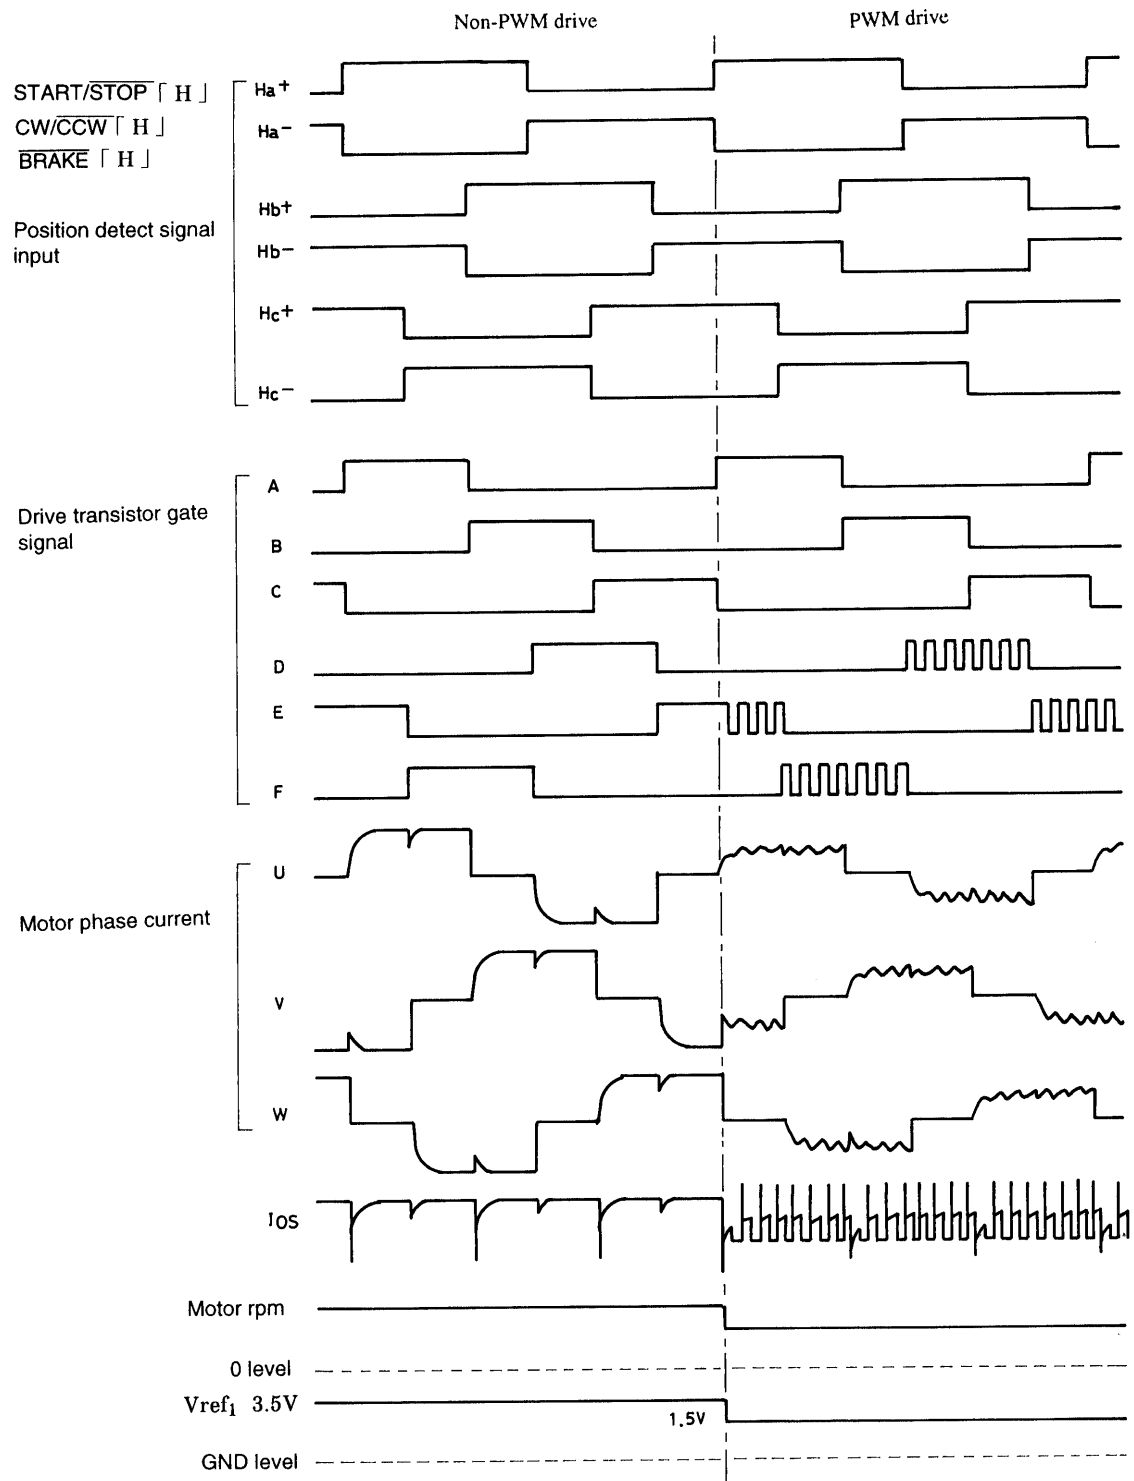
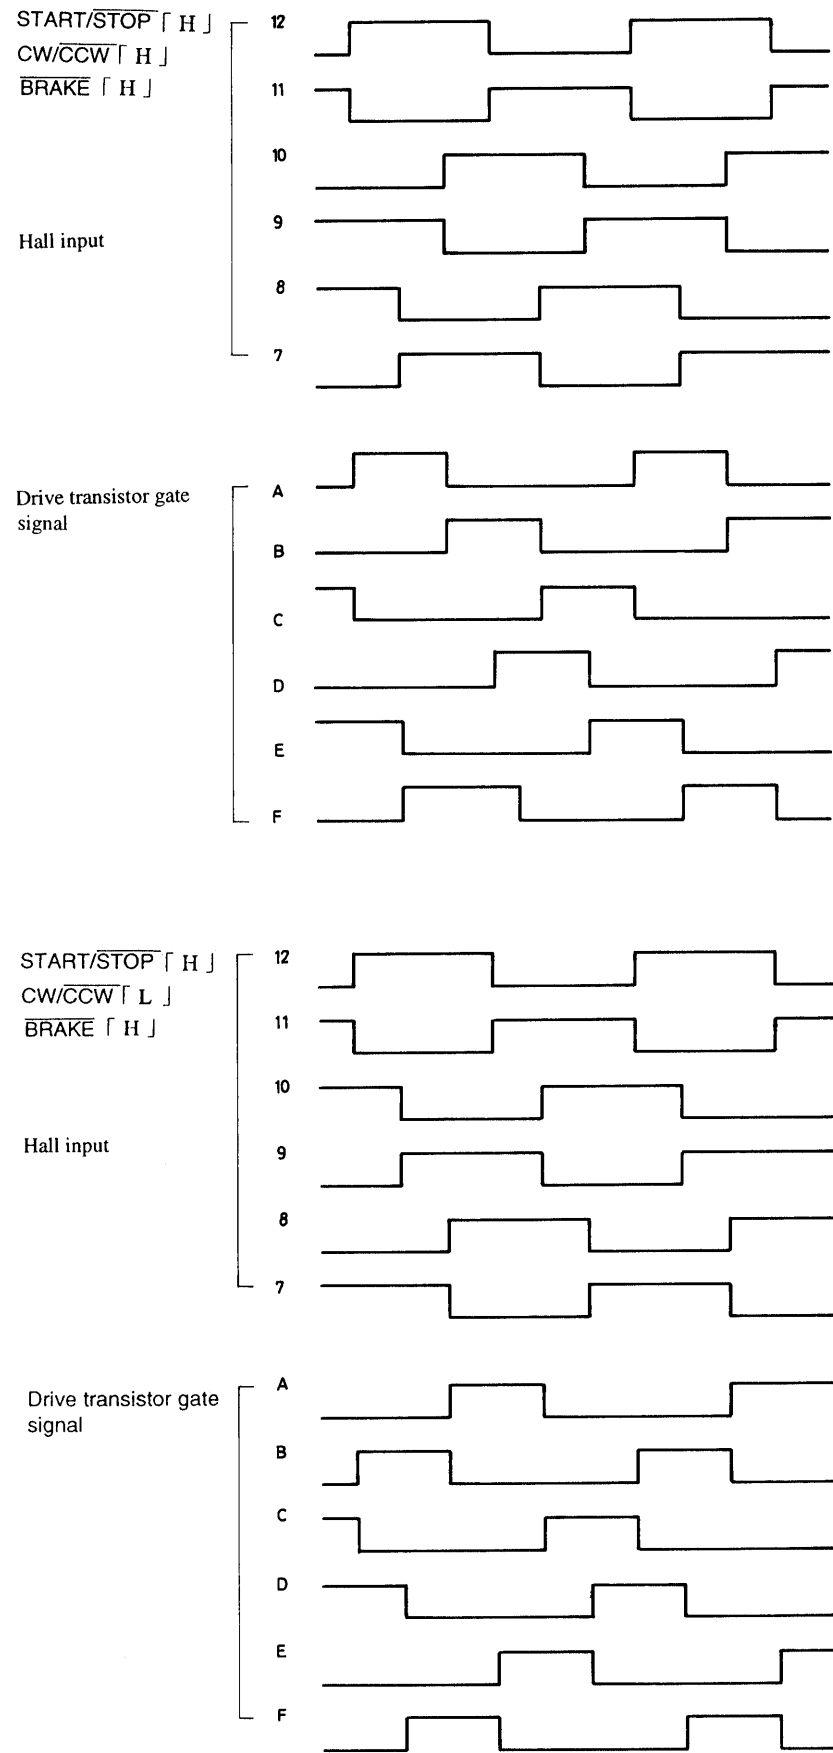
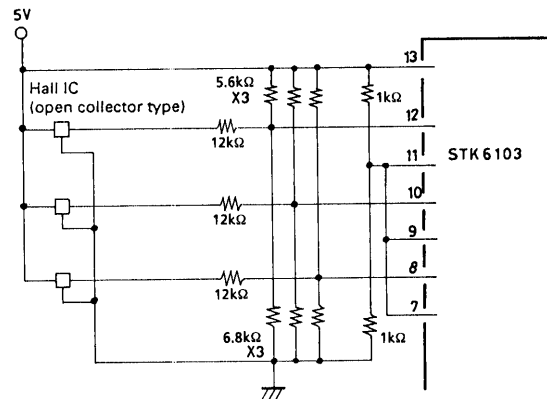

Fig. 3 I/O Timing Chart
Fig. 5 CW/CCW I/O Timing Chart
Fig.7 Conversion Circuit for Hall IC and Hall Device Signal
The conditions before input of V_{CC1} , with V_{CC2} on, are $\overline{START/STOP}$ pin H level, $\overline{CW/CCW}$ pin H level, \overline{BRAKE} pin H level and V_{ref1} pin (speed control input) H level. The position detect signal at this time, due to the effect of the rotor magnetic field, will be output signals from 1 or 2 devices (of the 3) so that $H_{x+} > H_{x-}$ is input to HIC pins 7 to 12. The signals input to pins 7 to 12 are input to the motor controller and converted into signals compatible with 3-phase brushless motor revolution. When V_{CC1} is supplied the charge pump circuit activates, generating V_{CC1} MOSFET gate voltage V_z . This outputs excitation current to the motor phase windings as indicated in the timing chart (Fig. 3), and rotating the motor.
The direction of motor revolution can be selected by setting the input level to H or L. CW is H level and $\overline{\text{CCW}}$ is L level. The CW timing chart is indicated in Fig. 3, and the $\overline{\text{CCW}}$ timing chart in Fig. 5.
Because signal input sensitivity V_H is $\pm 500\text{ mV}$ max, the level of the output signal (open collector) from the Hall IC must be reduced through conversion. A sample of this circuit is shown in Fig. 7. The position detect signal must be compatible with the motor phase winding even in the time chart state shown in Fig. 3, or the motor may not revolve smoothly.